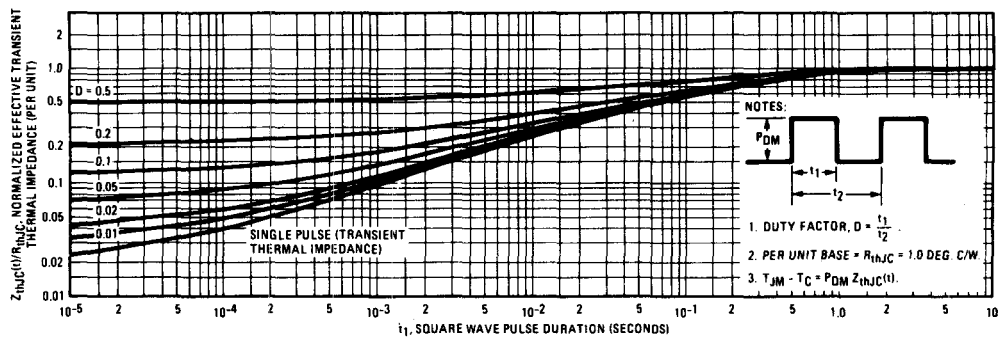

Fig. 5 - Maximum Effective Transient Thermal Impedance, Junction-to-Case Vs. Pulse Duration
① T_J = 25°C to 150°C. ② Pulse Test: Pulse width ≤ 300μs, Duty Cycle ≤ 2%.
③ Repetitive Rating: Pulse width limited by max. junction temperature. See Transient Thermal Impedance Curve (Fig. 5).